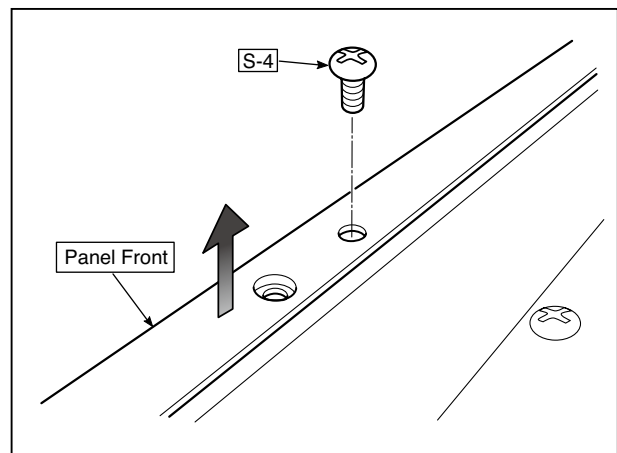

Fig.27
### 18) Remove the Panel Upper. (See Fig. 27)
1. Remove the "S-4" screws shown in the figure 27 and then remove the Panel Front.